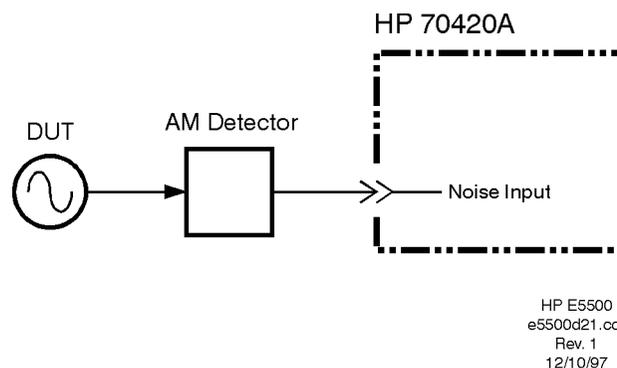

Figure 12-9 *User Entry of Phase Detector Constant AM Noise Measurement Setup Method 1, Example 2*
1. Connect circuit as shown in Figure 12-9, and tighten all connections. If the Agilent/HP 70420A Option 001 or Agilent/HP 70427A is available, use one of the connection diagrams described in “AM Noise Measurement Block Diagrams” on page 12-3.